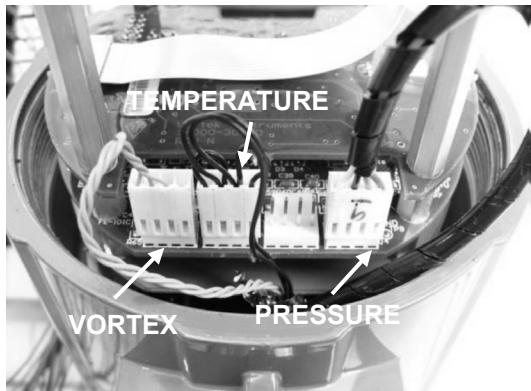

Figure 103 - Electronic Stack Sensor Connections
Using ESD precautions and hazardous area precautions, remove the electronics enclosure window cover. Disconnect the sensor connectors from the electronic stack or remote feedthrough board. Refer to Figures 103 or 104.
3. Locate the sensor harnesses which come up from the neck of the flow meter and attaches to the circuit boards. Make note of the location of each sensor connection. Refer to figures 103 and 104. The vortex sensor connection is on the left, the temperature sensor connection (if present) is second form the left, and the pressure sensor connection (if present) is the right most connector. Use small pliers to pull the sensor wiring connectors off of the circuit boards.